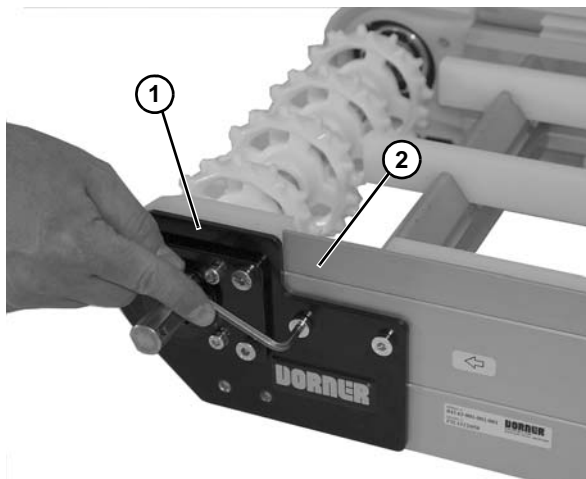

Figure 50
When reinstalling the drive spindle tail assembly, the drive tail assembly (**Figure 50, item 1**) should mate flush with the conveyor frame (**Figure 50, item 2**).